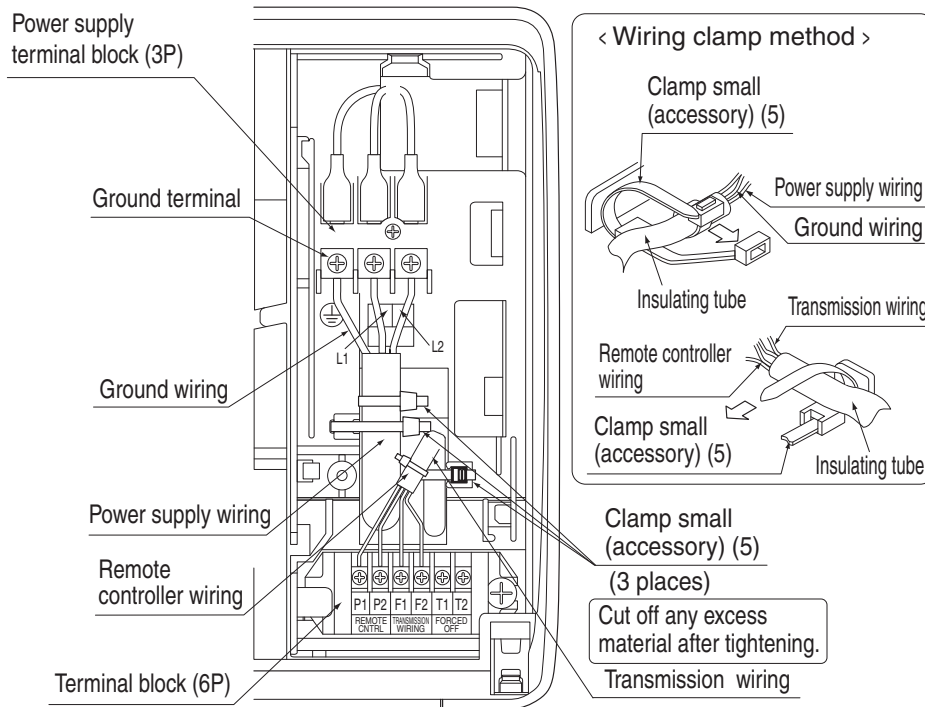

Fig. 22
When doing this, firmly secure using the included clamp (small) (5) according to the figure. **(Refer to Fig. 22)**
When doing this, tie the remote controller wiring and the transmission wiring using the included clamp (small) (5) and then firmly secure using the included clamp (small) (5) according to the figure. **(Refer to Fig. 22)**